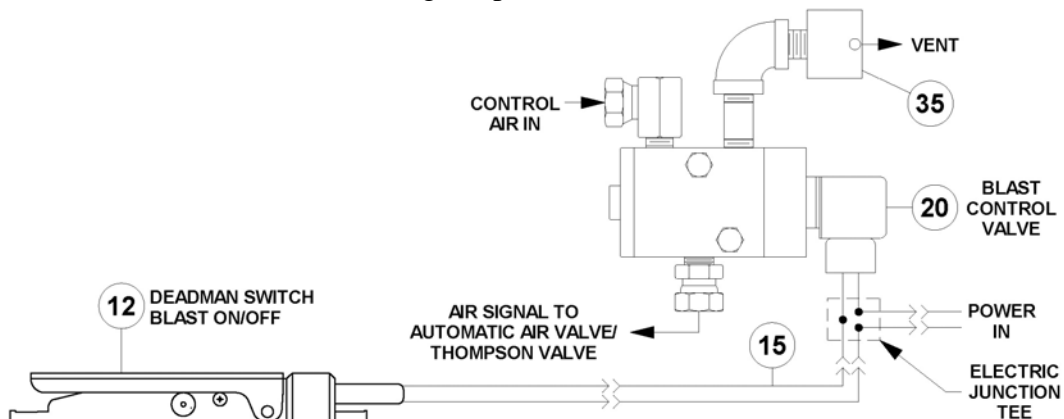

Figure 5.5 – Thompson Valve Electric Blast Control System
5.9.2. Electric Deadman System: When the electric deadman lever is pressed down it closes the electric circuit and supplies electric current to the control valve (#20). The control valve opens and sends air signals to the auto air valve (#9) and the Thompson Valve® (#14). When the deadman lever is released the electric circuit is cut off closing the control valve. The signal air vents from the breather (#35). See Figure 5.5 and the drawing in Section 9.2.